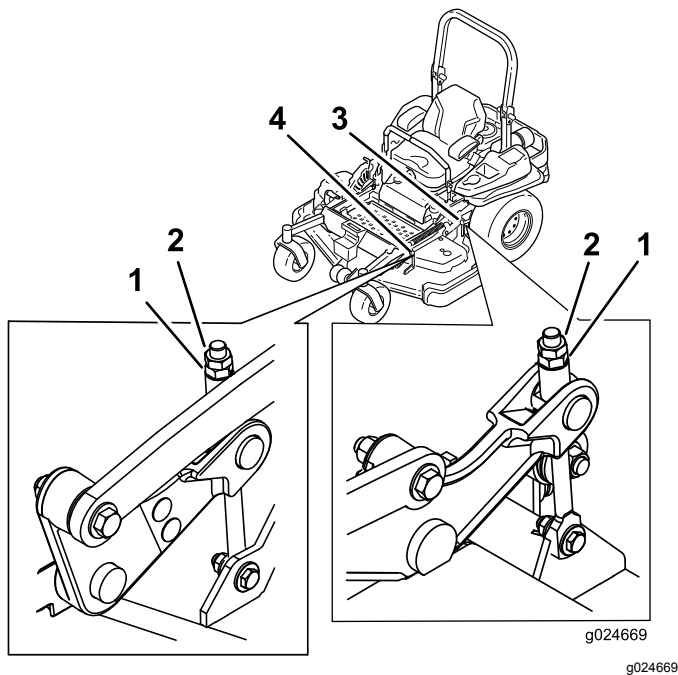

Figure 86
9. Fine-tune the adjustment nut on the front deck-lift assembly by turning it (see Figure 86).
14. Fine-tune the screw adjuster by turning it to get 8.3 mm (3-1/4 inches) height (Figure 86).